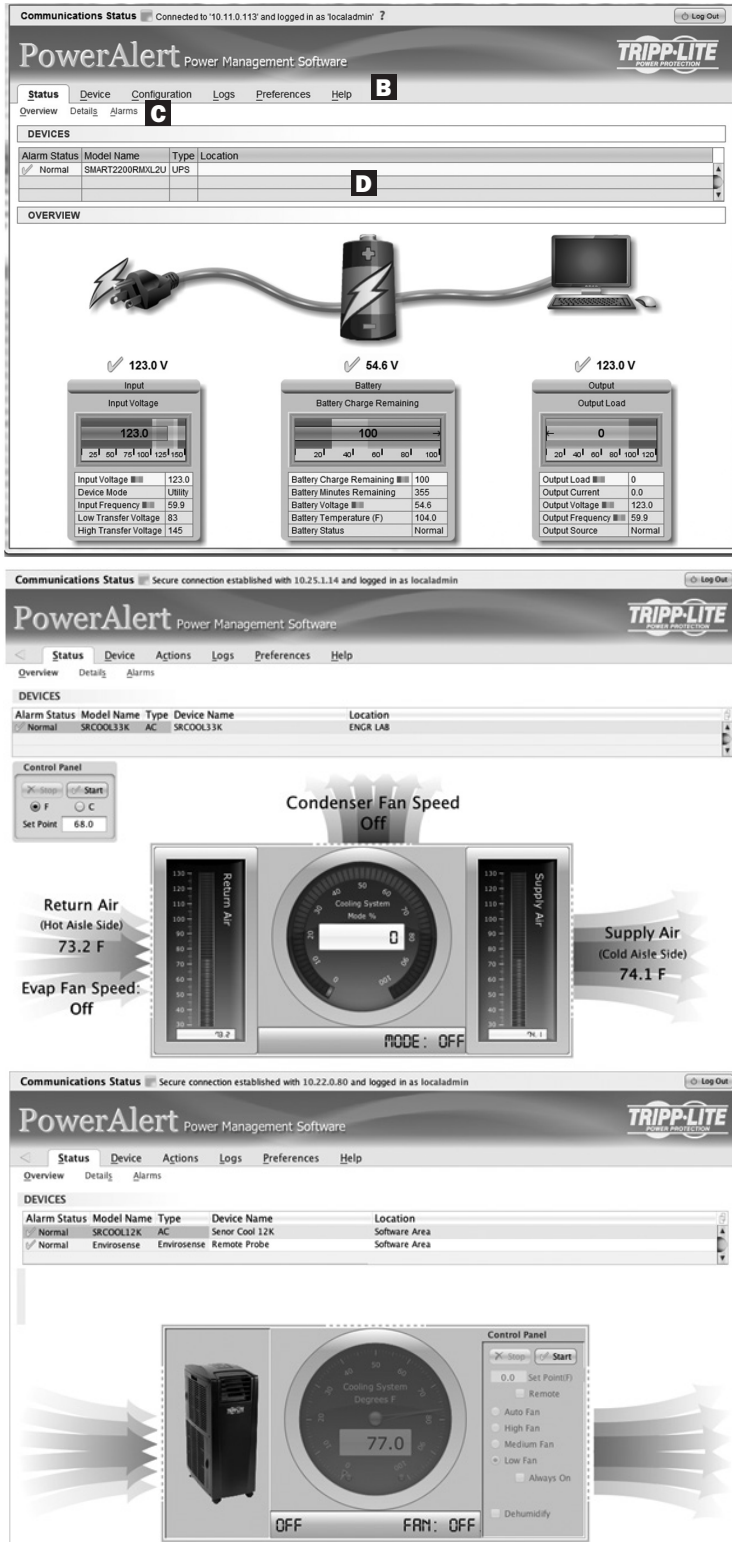

Figure 3-3: Status Pages
4. After you log in, the device status page (Figure 3-3) will load in the browser window.